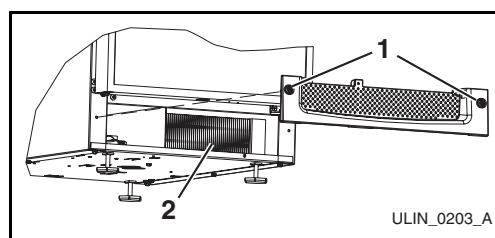

Figure 8
2. Loosen two screws (**Figure 8, 1**) completely.
4. Clean the condenser coil (**Figure 8, 2**) using a soft brush with a "combing" action or vacuum cleaner. Do not touch the condenser coil.